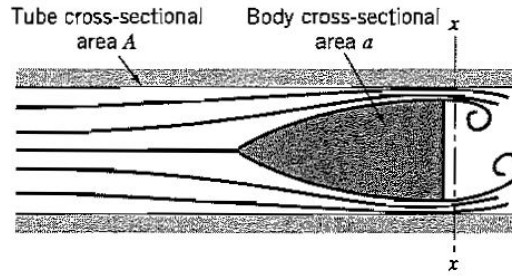

Figure P4.48
4.48 An axisymmetric body of cross-sectional area a moves steadily down a tube of cross-sectional area A , which is filled with a fluid of constant density ρ , as shown in Figure P4.48. The flow over the main part of the body is streamlined, but the flow separates over the rear